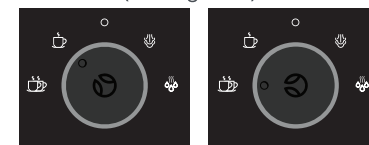

Fig. 8
- a. Rotate the Dynamic Control Dial to the Single Shot or Double Shot functions (see Figure 8).